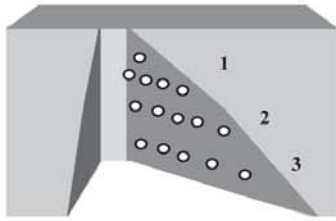

Fig 02.01-B2 Five horizontally dispersed point-samples are collected from each of three depths or zones within each cutout.
12.1 *Cut into Finished Compost*—Using tractor skid-loader, bobcat or shovel, or sample boring device, cut into the finished compost pile or windrow at five or more randomly selected positions. Collect samples from the full profile and breadth of the compost windrow or pile. Refer to Fig 02.01-B1.
12.2 *Collect Point-Samples*—Samples of equal volume are extracted from the compost pile at three depths or zones measured from the pile's uppermost surface. Collect no less than five point-samples from each of the three depths or zones illustrated in Fig 02.01-B2. The five point samples for each zone must be collected in a manner to accurately represent the horizontal cross-section of the windrow or pile. Use a sanitized sampling tool (a gloved hand, clean shovel or auger) when collecting samples and when transferring samples to the 5-gal sample collection pail.